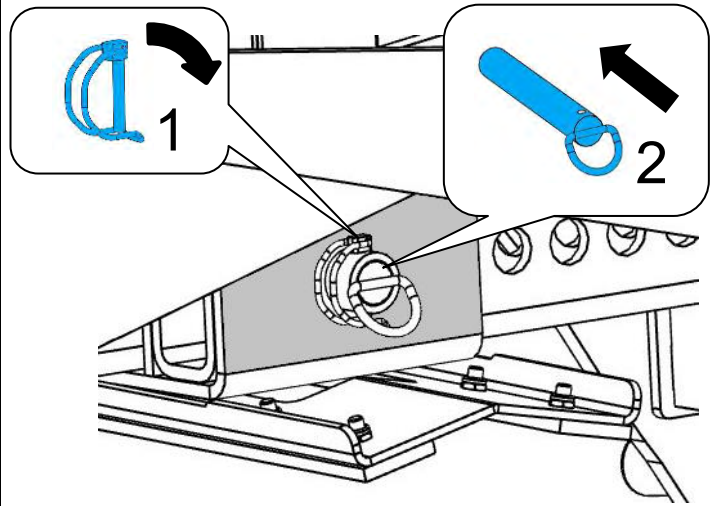

Fig. 4
5. Reinsert the socket pin (2) (fig. 4)
6. Refit the folding cotter pin (1) (Fig. 4).